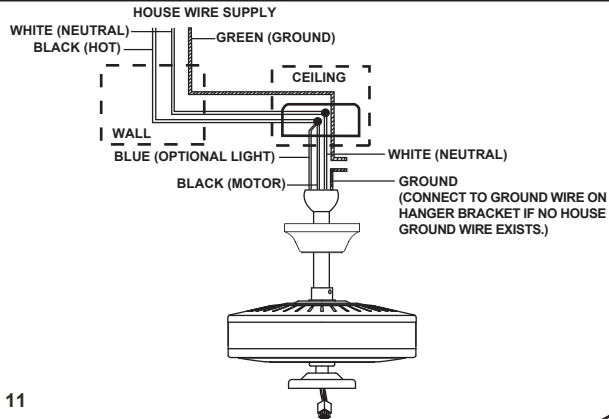

Fig. 11
Step 1. Connect the black (hot) wire from the ceiling to the black and the blue wires from the fan. Connect the white (Neutral) wire from the ceiling to the white wire from the fan. (Fig 11)
Step 2. If your outlet has a ground wire (Green or Bare Copper) connect the fan ground wires (on hanger ball and hanger bracket) to it; otherwise connect the fan ground wire on hanger ball directly to the hanger bracket. (Fig. 11)